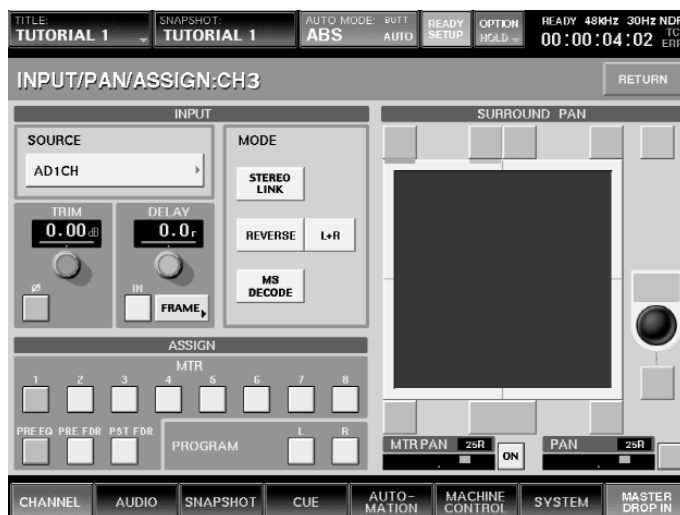

Figure 5
- 2 Touch the Assign section (upper center) to call up the Input / Pan Assign window (this can also be accessed by selecting INPUT / PAN ASSIGN from the CHANNEL tab). Since we want the signal from this channel to be routed to MTR buses and not the stereo PGM bus, deselect PROGRAM L and R and instead select MTR bus 1. (See Figure 5)